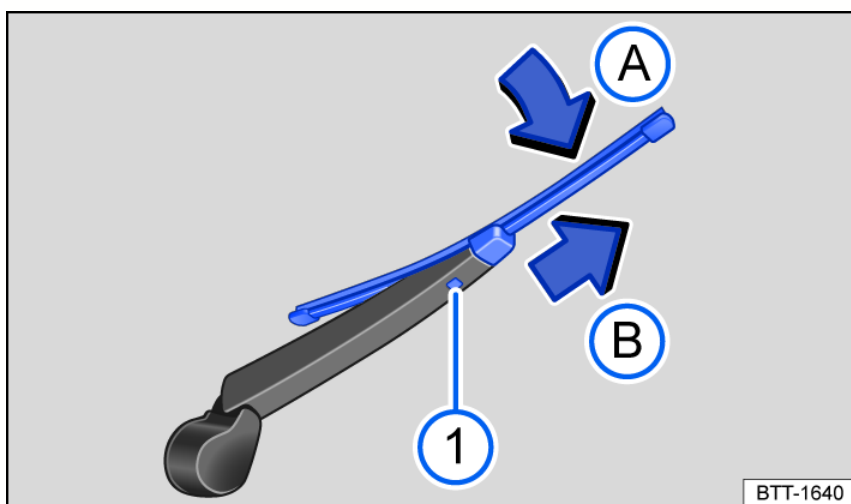

Fig. 169 Replacing the rear window wiper blade.
- Press and hold the release button *fig. 169* ①.
- Tilt the wiper blade toward the wiper arm *fig. 169* (arrow *A*) while removing it in the direction of the arrow *B*. You may need to use more force to do this.
- Insert a new wiper blade of the **same length and type** on the wiper arm in the opposite direction of the arrow until it engages *fig. 169* (arrow *B*). The wiper
blade must be folded out when doing this fig. 169 (arrow **A**).